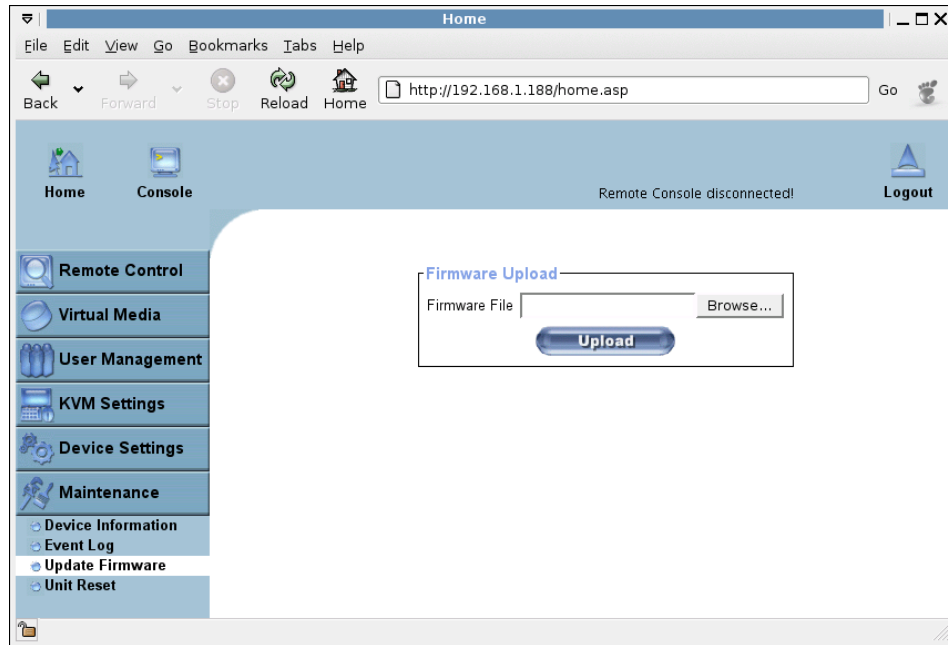

Figure 6-39. Update Firmware
- Firstly, the new firmware file is uploaded onto the LARA express. In order to do that you need to select the file on your local system using the button “Browse” of the Upload Firmware panel (see Figure 6-39). Then, click “Upload” to transfer the previously selected file from your local file system onto the LARA express. Once the firmware file has been uploaded, it is checked whether it is a valid firmware file and whether there were any transmission errors. In case of any error the Upload Firmware function will be aborted and the current firmware is kept as is.